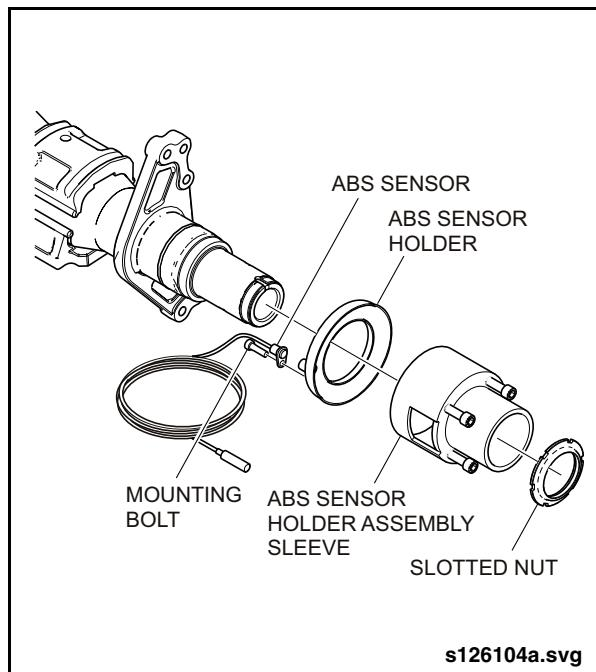

Fig. 2-145: Installing ABS Sensor
2. Place the open dished side of the ABS sensor holder against the assembly sleeve tool. See "Fig. 2-145: Installing ABS Sensor" on page 127.